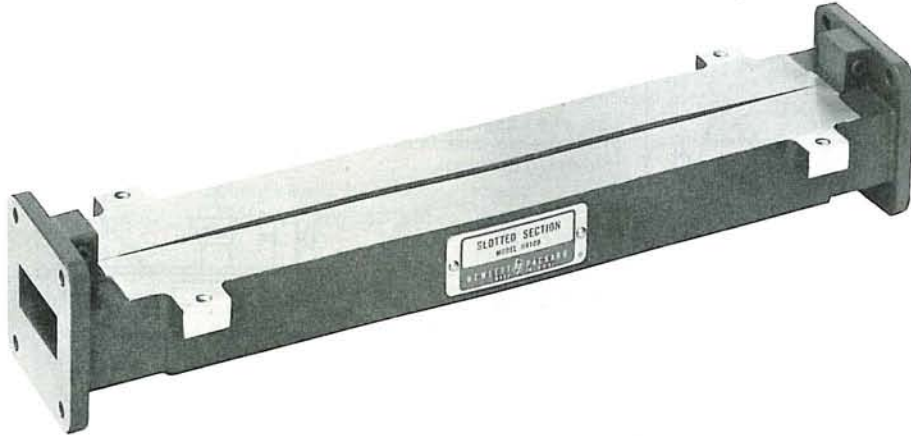

Figure 1. Model H810B Slotted Section
2. Model 810B slotted sections (Figure 1) are designed for use with the Model 809B Universal Probe Carriage